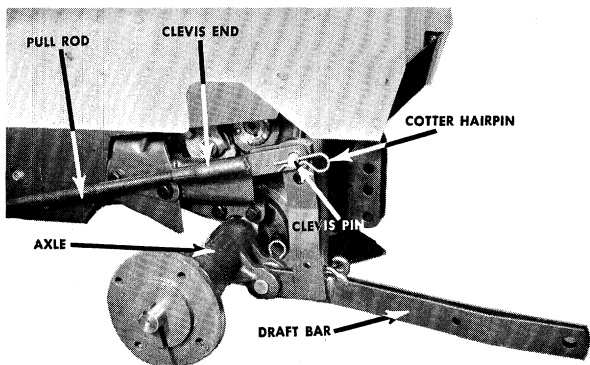

FIGURE 6. PULL ROD ASSEMBLY
Step 4. Assemble the clevis end of the pull rods to the top hole in the draft bars using the short clevis pins and secure with cotter hairpins. See Figure 6.